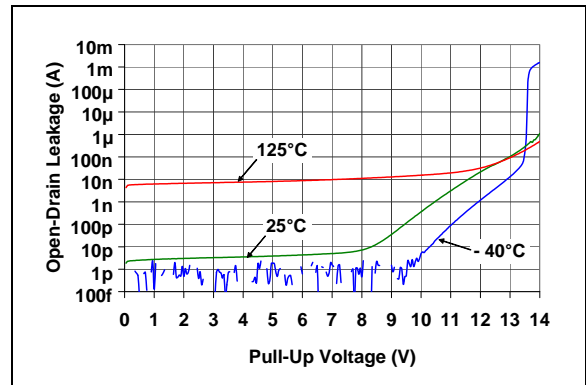

FIGURE 2-28: Open-Drain Leakage Current vs. Voltage Applied to V_{OUT} Pin (MCP111-195).
Note 3: This specification allows this device to be used in PIC[®] microcontroller applications that require the In-Circuit Serial Programming[™] (ICSP[™]) feature (see device-specific programming specifications for voltage requirements). This specification DOES NOT allow a continuous high voltage to be present on the open-drain output pin (V_{OUT}). The total time that the V_{OUT} pin can be above the maximum device operational voltage (5.5V) is 100 sec. Current into the V_{OUT} pin should be limited to 2 mA. It is recommended that the device operational temperature be maintained between 0°C to 70°C ($+25^\circ\text{C}$ preferred). For additional information, please refer to Figure 2-28.
- Note 3:** This specification allows this device to be used in PIC[®] microcontroller applications that require the In-Circuit Serial Programming™ (ICSP™) feature (see device-specific programming specifications for voltage requirements). This specification DOES NOT allow a continuous high voltage to be present on the open-drain output pin (V_{OUT}). The total time that the V_{OUT} pin can be above the maximum device operational voltage (5.5V) is 100 sec. Current into the V_{OUT} pin should be limited to 2 mA. It is recommended that the device operational temperature be maintained between 0°C to 70°C ($+25^\circ\text{C}$ preferred). For additional information, please refer to Figure 2-28.